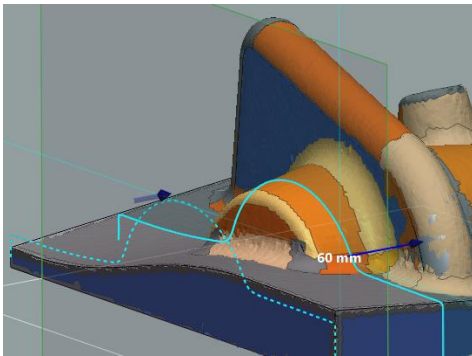

Figure 482
- Offset the **Section Poly-line** until it is in the cone region (**Figure 482**), about **60 mm**.